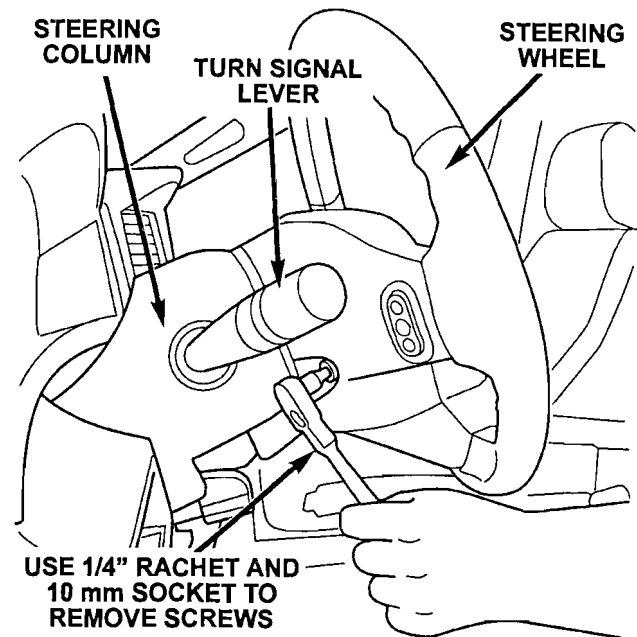

Figure 1
2. From the underside of the steering wheel, remove the two screws that secure the driver's side airbag to the steering wheel (Figure 1).
14. Install and tighten the two screws that secure the airbag to the steering wheel. Tighten the screws to 90 in. lbs. (10 N·m) (Figure 1).